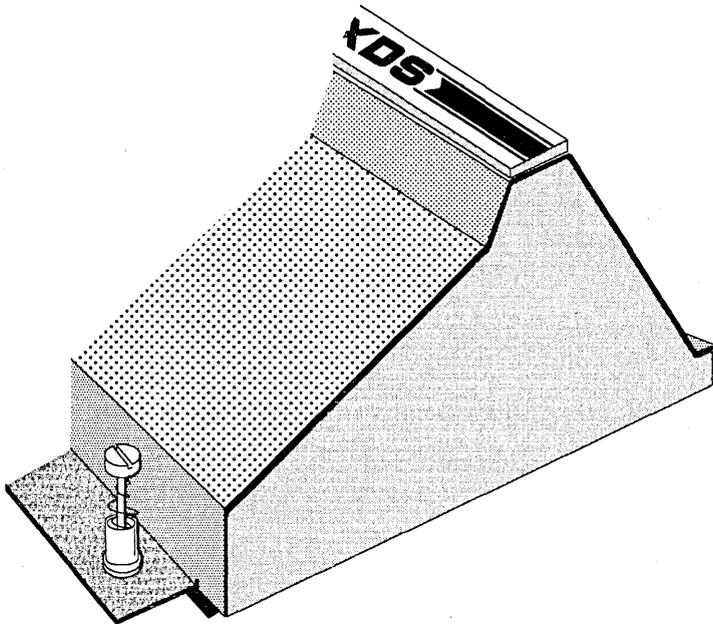

Figure 11-4. Card Cage Cover, Right Side
- 2) Loosen two captive thumb screws on lower front of XDS cabinet (Figure 11-4).